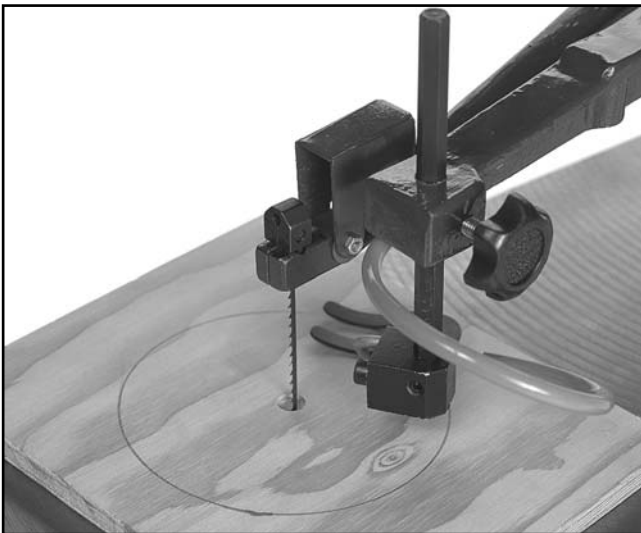

Figure 12.
5. Thread the Blade through the workpiece and let the workpiece rest on the table. Remount Blade in Chuck, carefully aligning the ridge on the bottom of the Chuck to the V-groove in the Upper Arm. **Figure 12.**